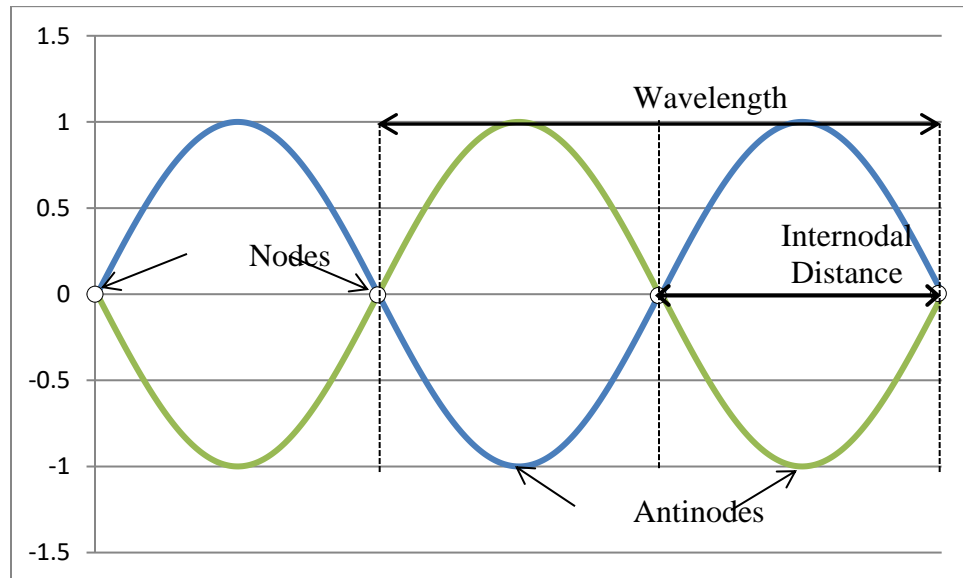

Figure 3
In the set up for this lab, waves reach the end of the string fairly soon, where they are reflected. Hence two wave “trains” traveling in opposite directions are present simultaneously. See **Figure 3**. If the proper relationship exists between the frequency, the string length and the string tension, a standing wave is produced. When conditions are such as to make the amplitude of the standing wave a maximum, the system is said to be in resonance.
Along a standing wave there are points that do not move at all, known as nodes. Midway between two consecutive nodes are points called antinodes, where the amplitude is greatest. See **Figure 3**. In this lab you will measure the distance between two nodes, also called the internodal distance, in order to calculate the wavelength of the wave.
2. Calculate the linear density of the string in units of (kg/m), Equation (4).
3. Calculate the wavelength of the standing wave using the internodal distance, Figure 3.
5. Choose the appropriate trendline fit in Excel for the data, Equation (3). Next use the equation of the fit to determine the experimental wave velocity.
6. Calculate the value of the velocity of the wave using Equation (5).
1. Calculate the wavelength for each trial using the internodal distance, Figure 3.
2. Calculate the wave velocity for each trial using Equation (2).
4. Calculate the linear density for each trial, Equation (5).